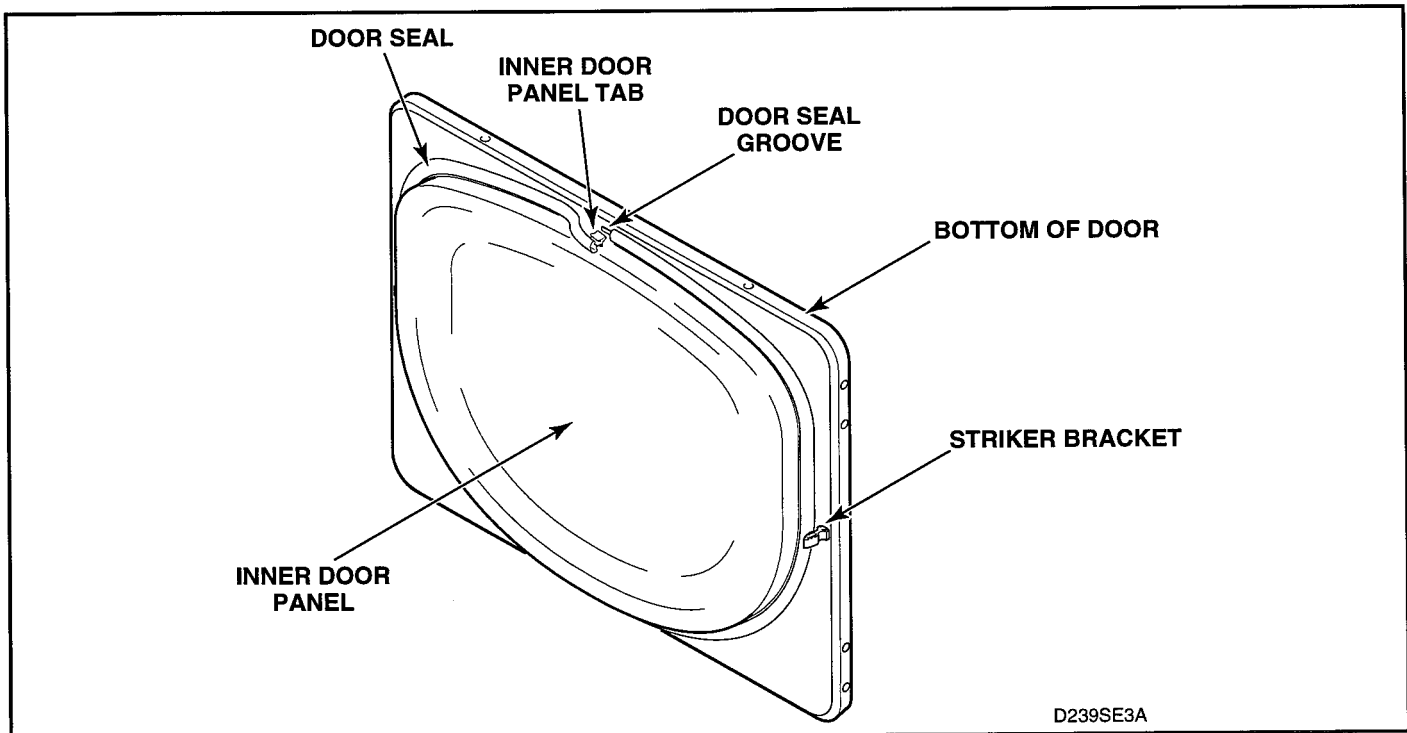

Figure 5-7
15. DOOR SEAL (Figure 5-7)
- Grasp either end of door seal at bottom of door and remove seal from tabs on inner door panel by gently pulling on the seal. See figure 5-7.
NOTE: When replacing seal, be sure seal is not stretched or distorted. The groove in the seal should be installed on each tab of the inner door panel, as in figure 5-7. The split in the seal should be at the bottom of the door.